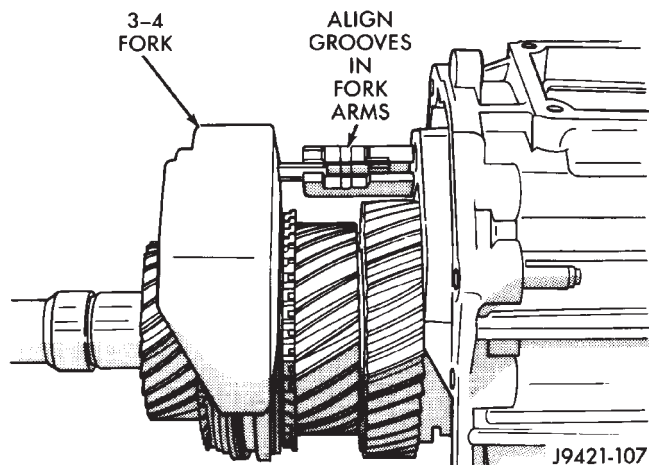

Fig. 103 Installing 3-4 Shift Fork
(2) Install 3-4 shift fork in synchro sleeve (Fig. 103). Verify that groove in fork arm is aligned with grooves in 1-2 and fifth-reverse fork arms as shown.